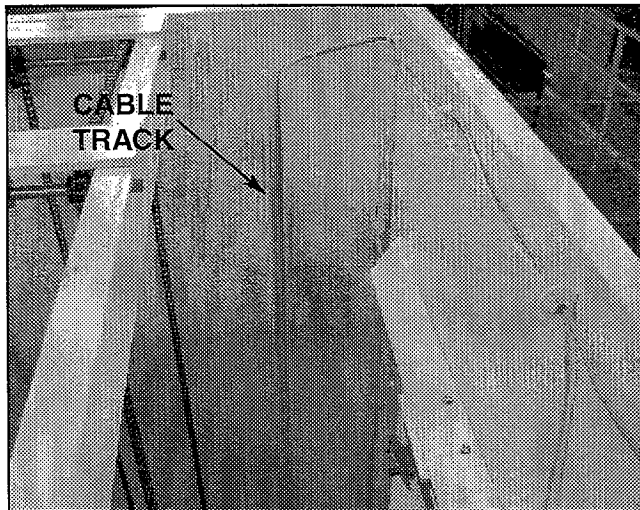

Figure 5
4. Route cables away from moving parts of lift and down cable track on back. Install track covers after running cables. See Figure 5.